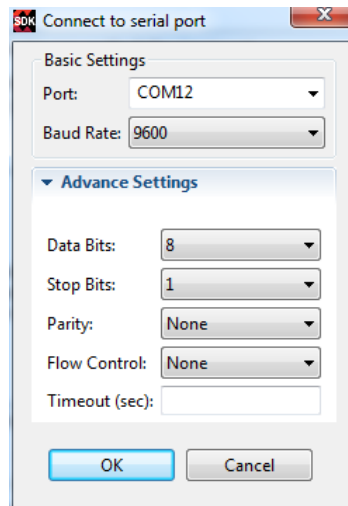

Figure 44: Connect to Serial Port Dialog Box
4. In the Connect to serial port dialog box, select the right COM port (may vary on your system) and make sure the parameters are set up similar to Figure 44. Click **OK**.